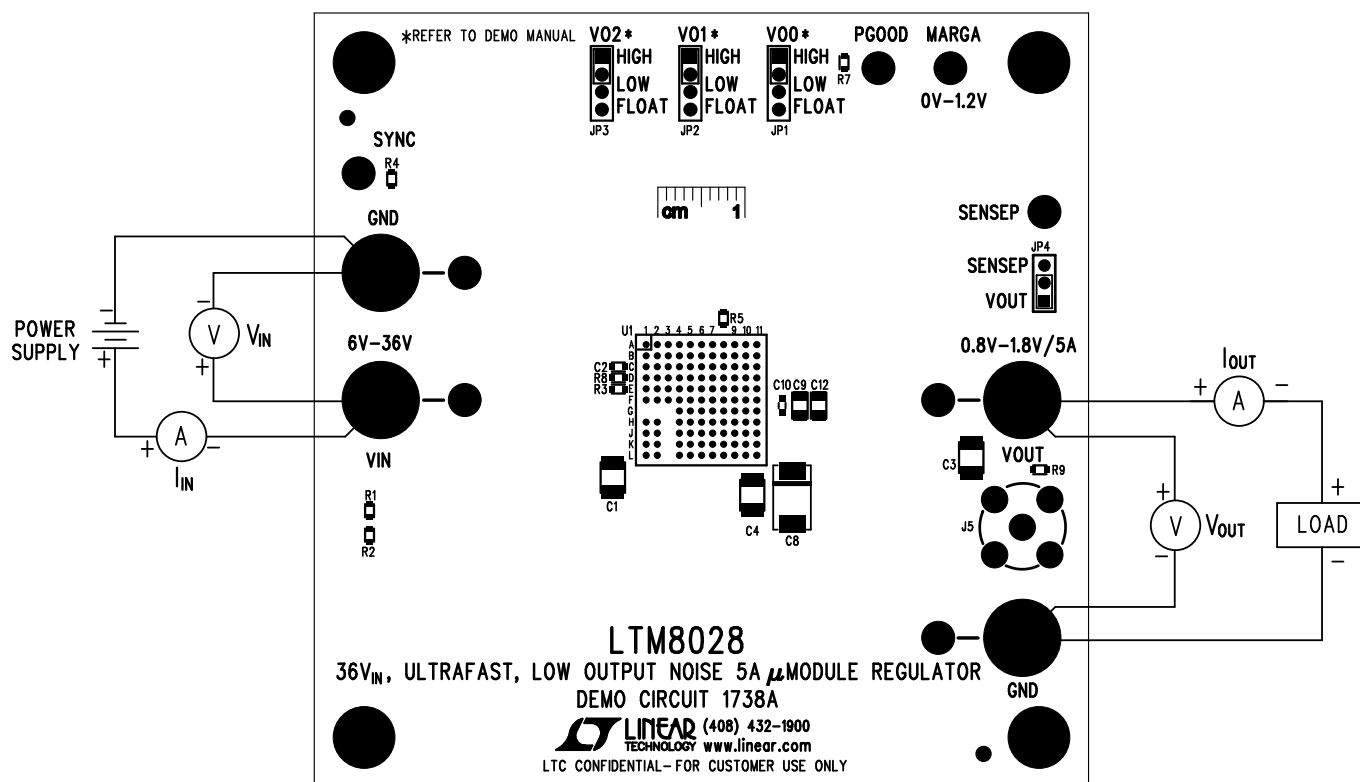

Figure 2. Proper Measurement Equipment Setup
Demonstration circuit 1738A is an easy way to evaluate the performance of the LTM8028. Refer to Figure 2 for proper measurement equipment setup and follow the procedure below:
2. With power off, connect the input power supply, load and meters, as shown in Figure 2. Preset the  $V_{IN}$  supply between 6V to 36V.